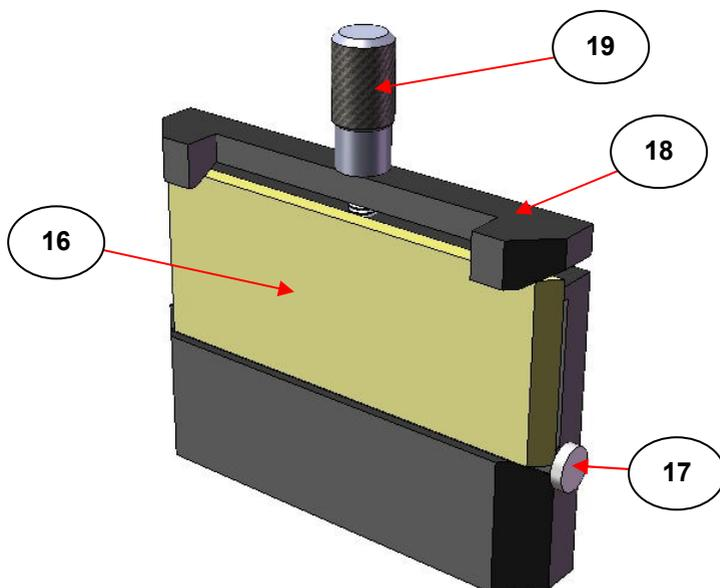

Fig 5. 25 Reflection ATR Paste Holder GS11002
To remove the ATR crystal, the knob (19) at the top of the paste holder is unscrewed and the top clamp bar (18) is lifted clear. This allows the crystal to be pulled up and out of the holder. Insertion of the ATR crystal (16) into the holder (with or without sample) is the reverse procedure. Similarly, as with the solids holder P/N GS11001, the ATR crystal (16) is correctly positioned in the paste holder P/N GS11002 when the apex tip of the crystal is touching the nylon end stop (17) as seen in Fig 5.